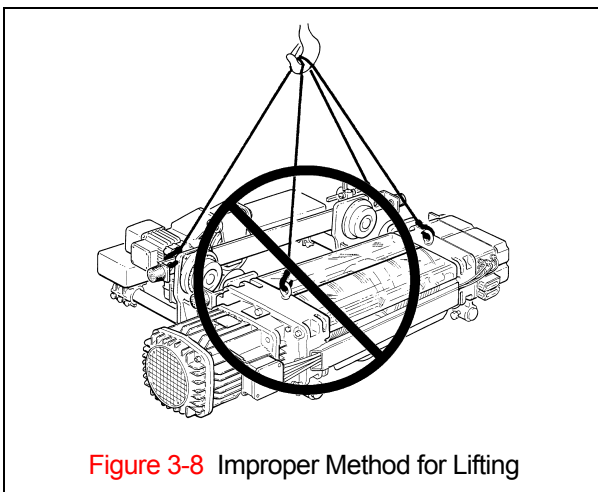

Figure 3-8 Improper Method for Lifting
- 7) **⚠️ WARNING** When installing the trolley hoist on a beam, ALWAYS raise the hoist into position with the trolley assembled together and securely attached to a pallet. Raise the trolley hoist with a forklift, lifting platform, or other similar means. NEVER use slings to raise and install the trolley hoist onto the beam (see Figure 3-8).